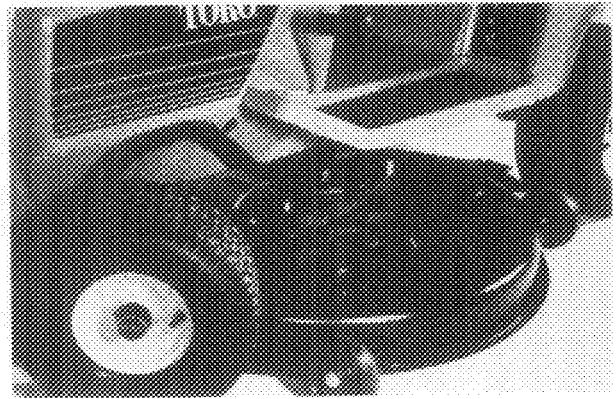

Figure 23
4. Turn tractor front wheels fully to the right, turn the cutting unit so the rear wheels face the right side of the tractor and pull the unit out from under the machine (Fig. 23).